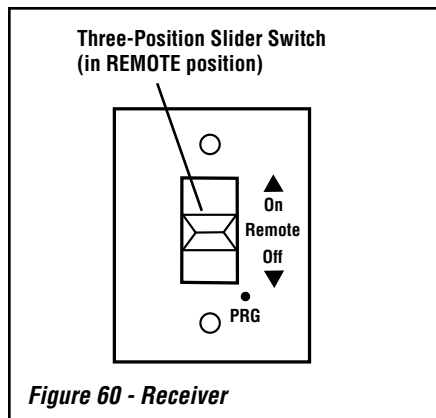

Figure 60 - Receiver
Place the three-position slider switch in the "Remote" position (see **Figure 60, next page**). Using the end of a paper clip, or other similar object, insert the end of the paper clip into the hole marked "PRG" on the Receiver front cover. The Receiver will "beep" three (3) times to indicate that it is ready to synchronize with a Transmitter.